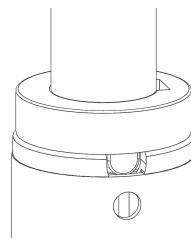

Figure 23 – Locking the IV pole
2. Rotate and lock the IV pole into the accessory sleeve (Figure 23).